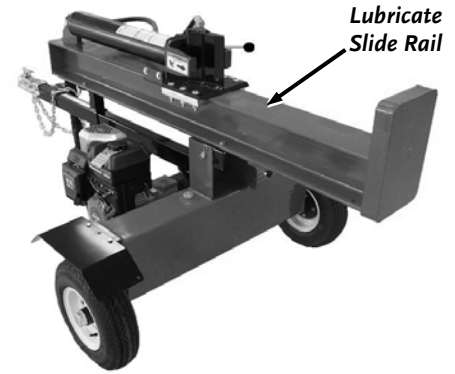

Figure 24
- Lubricate the surface of slide rail with a general-purpose grease (**Figure 24**). This will help to prevent wear between the slide plates and the slide rail.